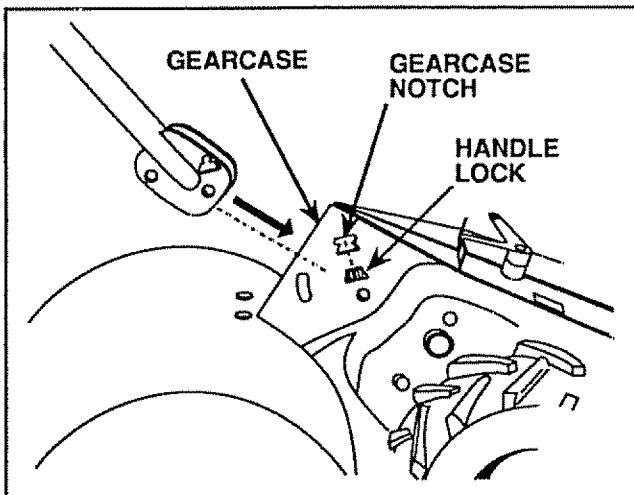

FIGURE 3
- Insert one Handle Lock (with teeth facing OUTWARD) in Gearcase Notch (Fig. 3). (Apply grease on smooth side of Handle Lock to aid in keeping Lock in place until Handle is lowered into position).